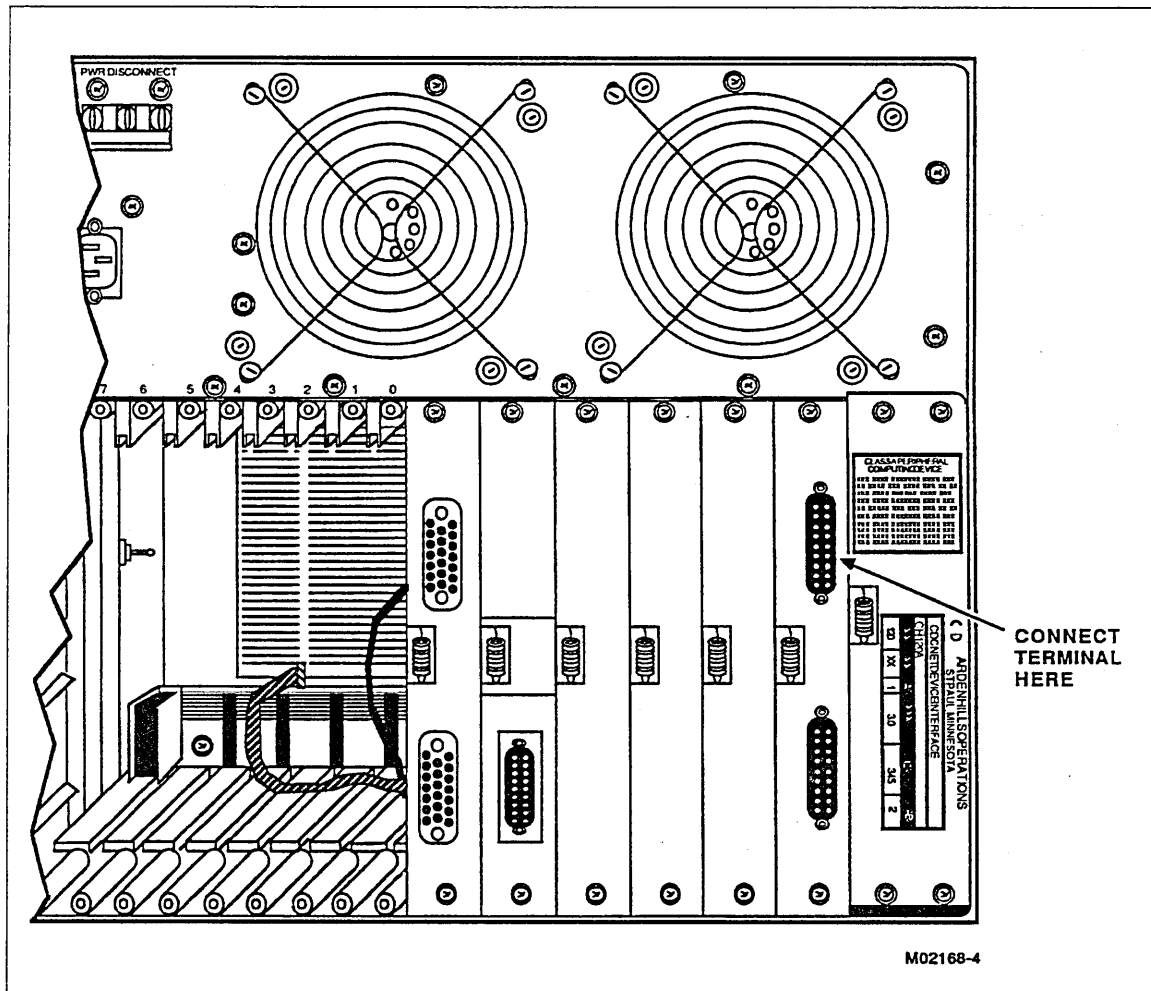

Figure 1-19. Connecting a Terminal to the MCO
1. Refer to figure 1-19 and connect the "null modem" cable from the terminal to the MCO on the back of the DI. The cable connects to the top connector labeled "to modem." (The bottom connector labeled "to terminal" is not used at this time.)